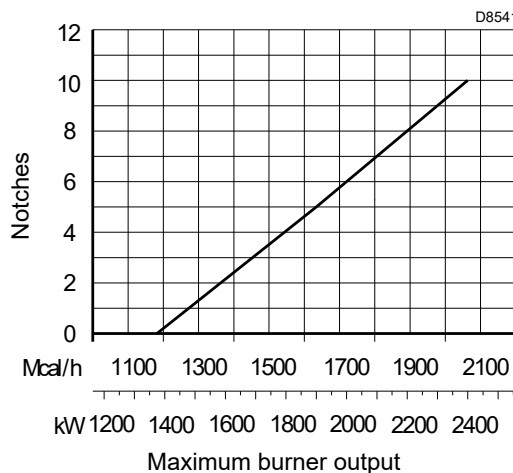

Fig. 19
In diagram (Fig. 19) find the notch for:
If we consult diagram (Fig. 19) we find that for this output the adjustments are:
• R2 adjustment (Fig. 19) is an indication only. If possible, always keep the ring nut closed (notch 0); if air recovery is required the nut may be opened following the indications in diagram Fig. 19.
• Diagram Fig. 19 indicates an optimal regulation for a type of boiler seen in Fig. 2.